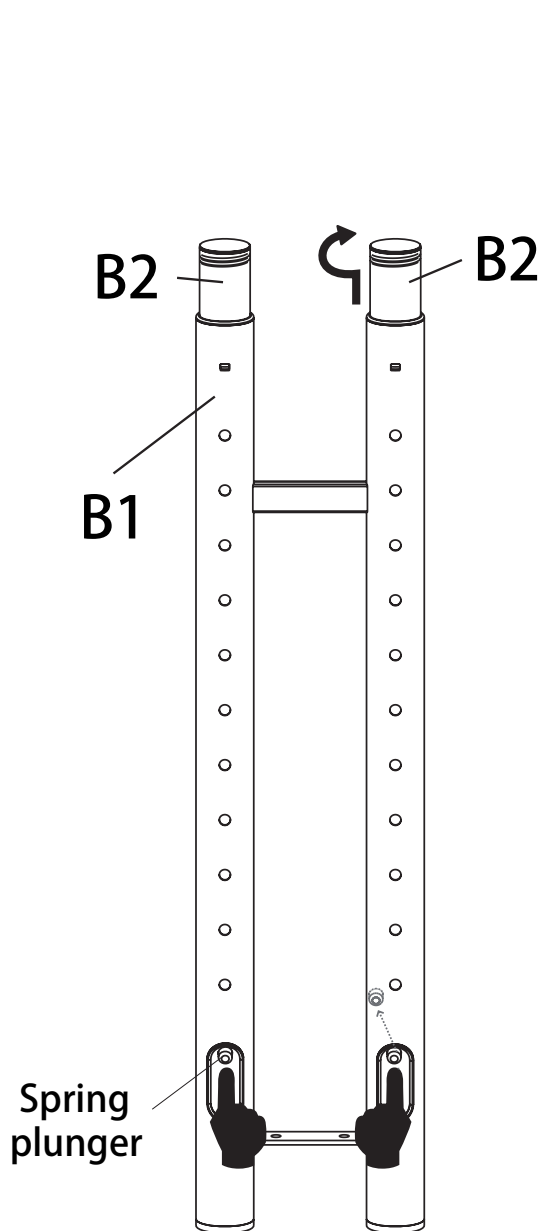

figure 1
- 1 Locate the spring plungers inside the bottom grommet hole of pole B1 (If your unit has B3 cross bar pre-installed remove prior). Starting with the right side pole B2, push the spring plunger down and pull B2 up slightly and twist it slightly so that the spring plunger remains offset. This will make adjusting the pole easier. (figure 1)